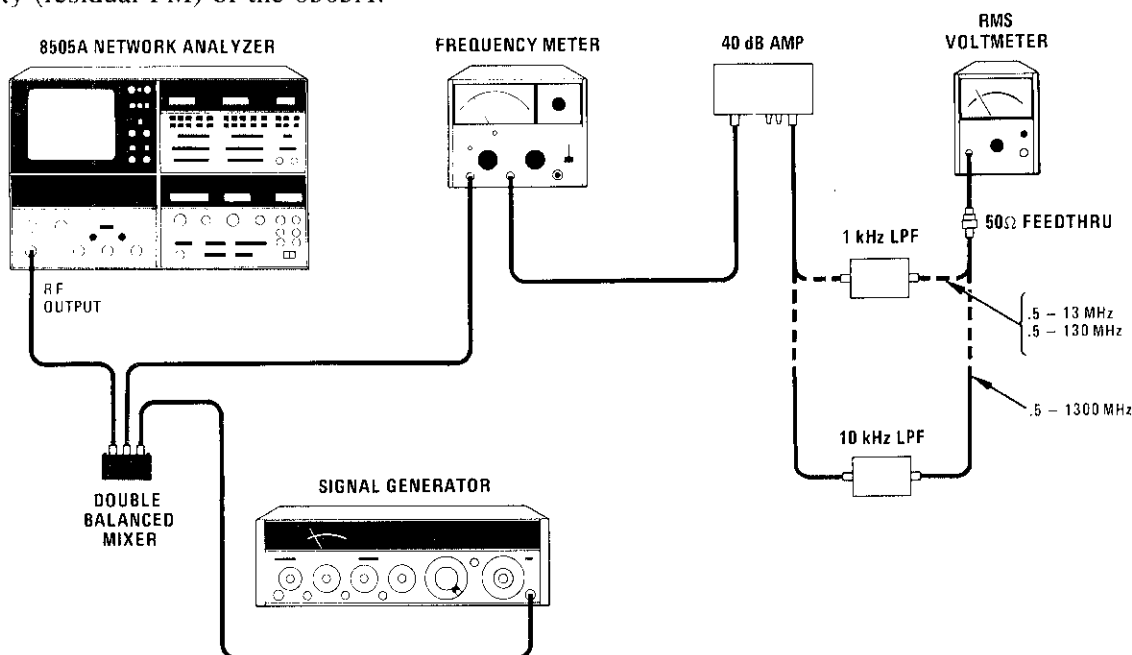

Figure A4-24. Residual FM Test Setup
- e. Connect equipment as shown in Figure A4-24 with the 1 kHz Low Pass Filter connected between the 40 dB Amplifier and the 3400A rms voltmeter. Set 3400A range to 10 mV.
- t. Replace 1 kHz LPF with 10 kHz LPF as shown in Figure A4-24.